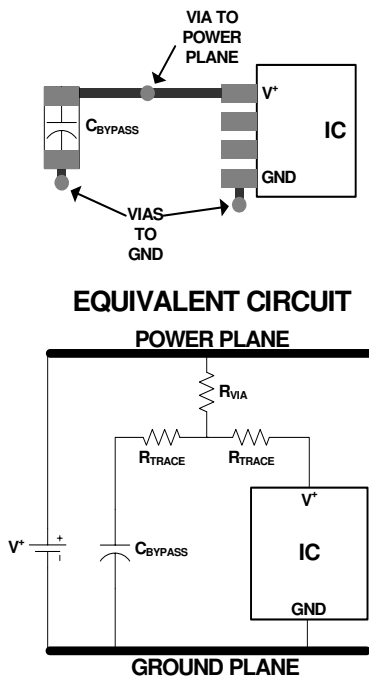
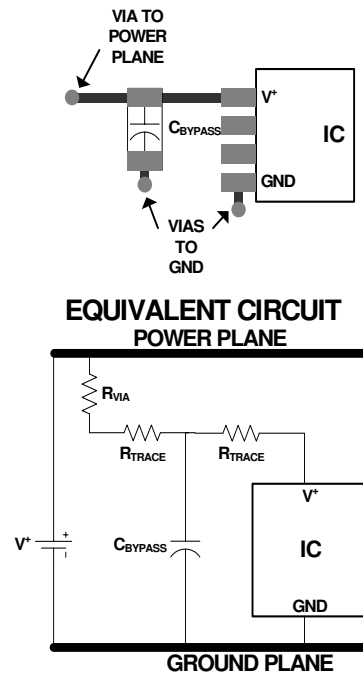

FIGURE 12. SUB-OPTIMAL BYPASS CAPACITOR LAYOUT
FIGURE 13. OPTIMAL (“T”) BYPASS CAPACITOR LAYOUT
- Ideally each supply should be bypassed to ground with a  $0.1\mu\text{F}$  capacitor. Minimize trace length and vias to minimize inductance and maximize noise rejection. Figure 12 demonstrates a common but non-ideal PCB layout and its equivalent circuit. The additional trace resistance between the bypass capacitor and the power supply/IC reduces its effectiveness. Figure 13 demonstrates a better layout. In this case there is still series trace resistance (it is impossible to completely eliminate it), but now it is being put to good use, as part of a “T” filter, attenuating supply noise before it gets to the IC, and reducing the amount of IC-generated noise that gets injected into the supply. Follow the good supply bypassing rules shown in Figure 13 to the extent possible.